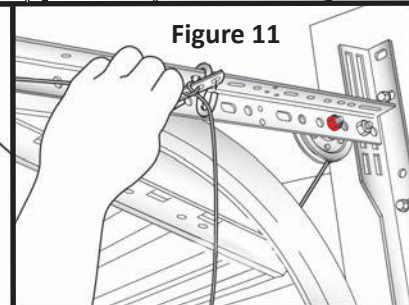
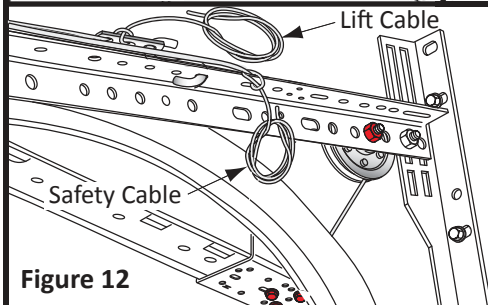
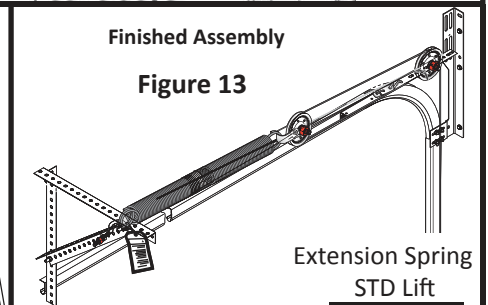

Figure 11
Figure 12
Figure 13
**Step 11:** Attach the Cable Adjustment Clip to the "S" Hook (Figure 11). Be sure to pull out all of the slack in the cable at the Cable Adjustment Clip so the Extension Spring hangs near horizontally (Figure 13). Loop any additional cable to keep it out of the way (Figure 12)
**Step 12:** Tie the remaining Safety Retention Cable(s) through a hole in the Horizontal Angle between the "S" hook and the jamb (Figure 12). Loop any additional cable to keep it out of the way (Figure 12).
**Step 11:** Attach the Cable Adjustment Clip to the loose end of the Lifting Cable (Figure 11).
**Step 12:** Attach the Cable Adjustment Clip to the "S" Hook (Figure 11 & 14). Be sure to pull out all of the slack in the cable at the Cable Adjustment Clip so the Extension Spring hangs near horizontally (Figure 14 & 15). Loop any additional cable to keep it out of the way (Figure 13)
**Step 13:** Attach the Cable Adjustment Clip(s) to the Safety Retention Cable(s) (Figure 12). Fasten the clip(s) to the jamb using (1) 5/16"x1-5/8" Lag Bolt (Figure 12 & 13).